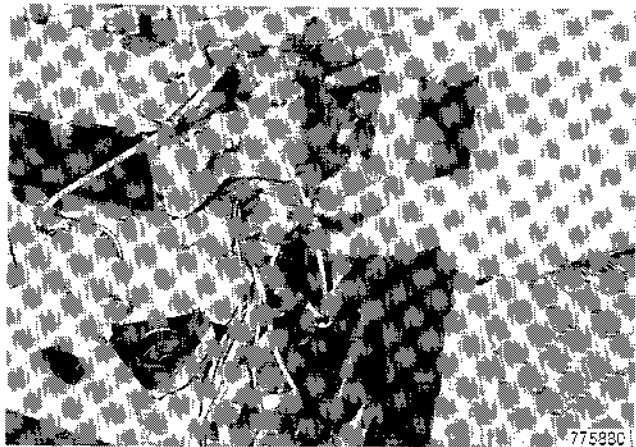

Figure 172
14. Install injector return tube between cylinder head and engine block, Figure 172. Tighten fitting.